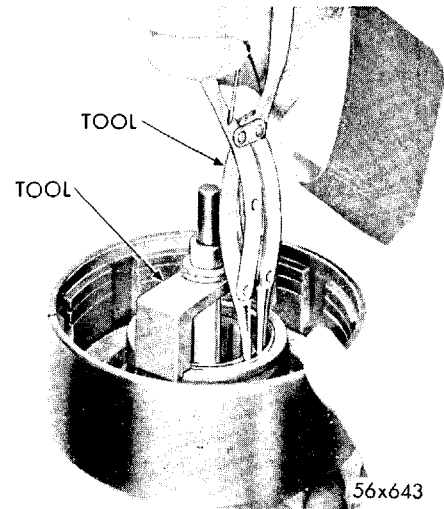

Fig. 71—Removal and Installation of Rear Clutch Spring Retainer Snap Ring
(4) Using compressor, Tool C-3575, slightly compress the rear clutch piston return spring retainer, as shown in Figure 71. **Use extreme care not to damage piston return spring retainer by compressing the spring too far.**
(5) Remove piston return spring retainer snap ring with parallel jawed snap ring pliers, Tool C-3301.
(6) Release compressor carefully, Tool C-3575, and remove clutch return spring retainer (P) and spring (Q) from clutch piston retainer assembly. **Spring retainer may require guiding past snap ring groove as tool is released.**
(7) Using a twisting motion, remove the clutch piston assembly (R) from retainer. Remove the inner and outer (S. & T.) seal rings from piston.
(1) Lubricate and install inner piston seal ring (T) on hub of clutch retainer. **Make sure that lip of seal is facing down and seal is properly seated in groove.**
(2) Lubricate and install outer seal ring (S) on clutch spring (lip of seal toward piston head).
(3) Place piston assembly (R) in clutch retainer (U) and with a twisting motion, seat piston in bottom of retainer.
(4) Install piston return spring on hub and position spring retainer and snap ring on spring.
(5) Using compressor, Tool C-3575, compress the clutch spring sufficiently to permit the snap ring to enter the groove in the hub and snap the ring in place as shown in Figure 71. Piston spring retainer may require guiding past the clutch hub. **Make very sure the snap ring is properly seated.**
(6) Remove compressor, Tool C-3575.
(7) Lubricate all clutch plates and drive discs with Automatic Fluid (Type "A" — Suffix "A"). Assemble by placing one of the rear clutch steel plates in the clutch retainer followed by a driving disc. Repeat this procedure until all discs and plates have been installed.